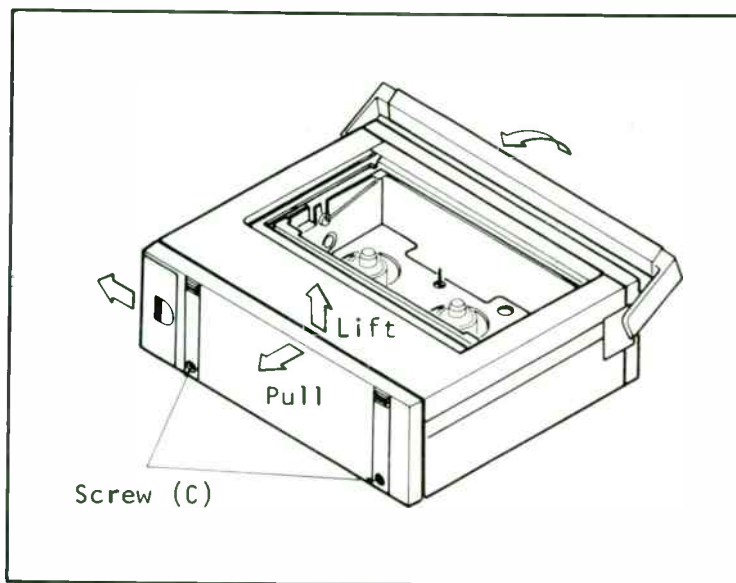

Fig. 9-6. Removal of the top case (courtesy of General Electric).
2—Remove 2 screws (C). Then carefully lift the rear portion and pull toward the rear of the deck to remove (Fig. 9-6). While removing, keep the handle up and hold it with your hand. Note: when reinstalling, first insert the locking portions into the front panel.